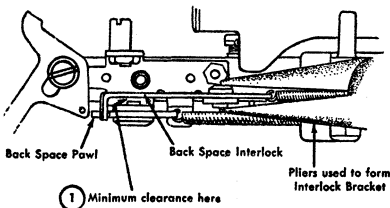

Figure 32. Adjusting Height of Interlock
1. HEIGHT OF INTERLOCK. The interlock mounting bracket must be formed up or down to obtain a minimum amount of clearance between the interlock and the riveted stud that mounts the backspace pawl to its bracket (Figure 32).